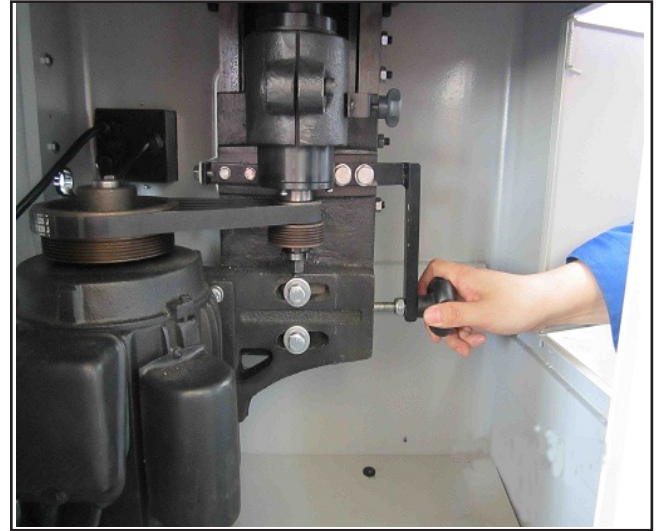

Figure 13. Adjusting the V-belt tension
2. Loosen the two motor mount bolts and slide the motor toward the spindle assembly by turning the knob. **DO NOT** take the bolts out. **See Figure 13.**